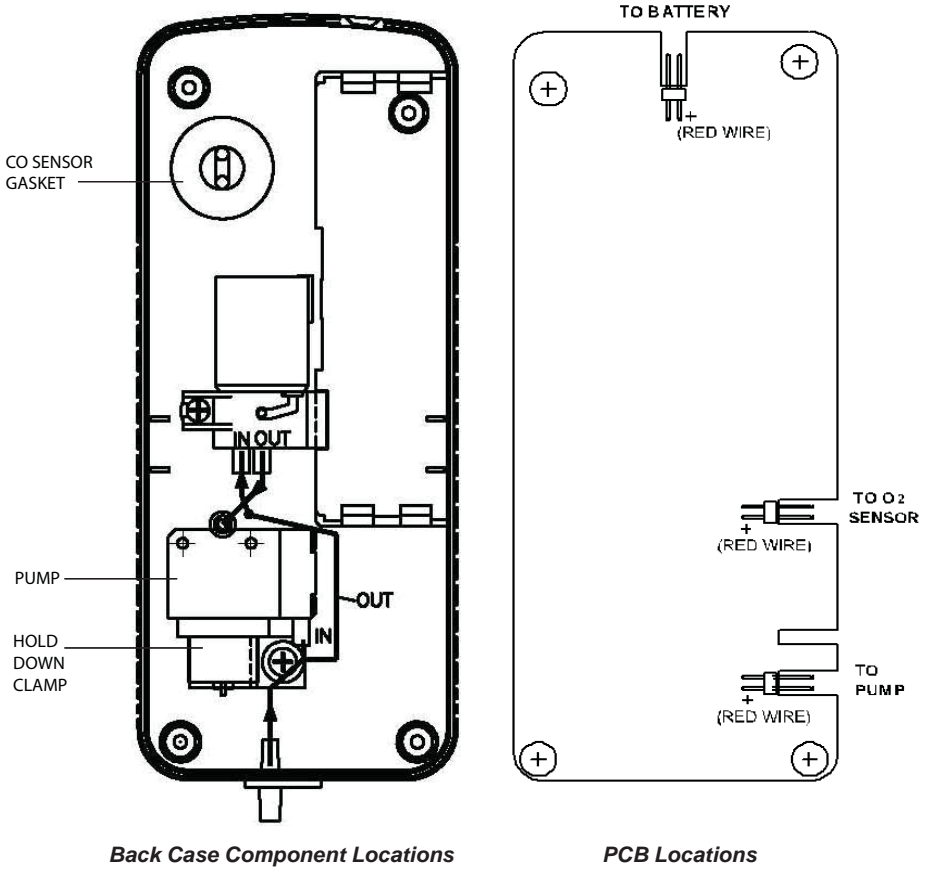

Figure 5-2.
2. Slip off the oxygen sensor's electrical connector from the circuit board. Push down and twist counterclockwise. Then pull the oxygen sensor out of its socket (see Figure 5-2).
6. Plug the oxygen sensor's electric connector into the printed circuit board (observe polarity; see Figure 5-2). Reassemble the analyzer.
- d. Carefully remove the circuit board, slipping off the battery connector on top, and then laying the circuit board face down in the top cover (see Figure 5-2).
3. Unscrew the pump's hold down clamp and remove it from the pump (see Figure 5-2). Make note of how the pump wiring is routed.